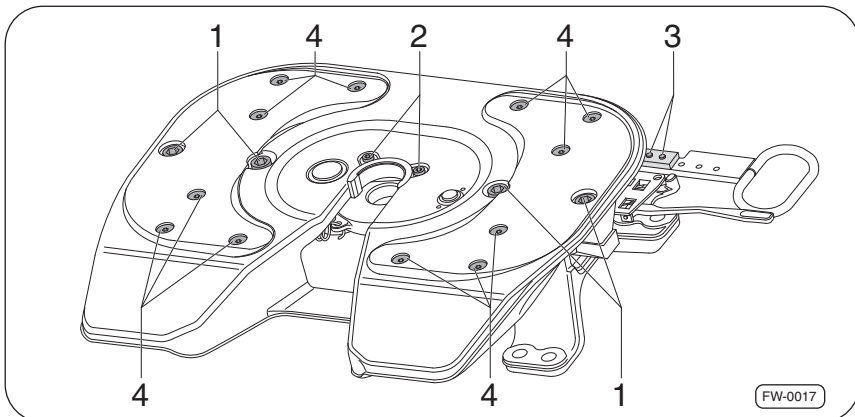

Fig. 20 · Torque FW3214-W
1. Unscrew and dispose of Fig. 20, -item 1- bolts (4x).